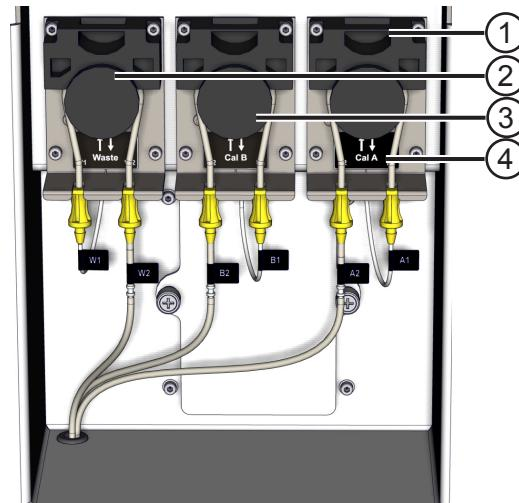

Figure 94 Connecting the peristaltic pump tubes
Insert a tube into each peristaltic pump. To insert the tube into head of the peristaltic pump release the pressure on the head by pulling the clamp (1) upward, see Figure 94.